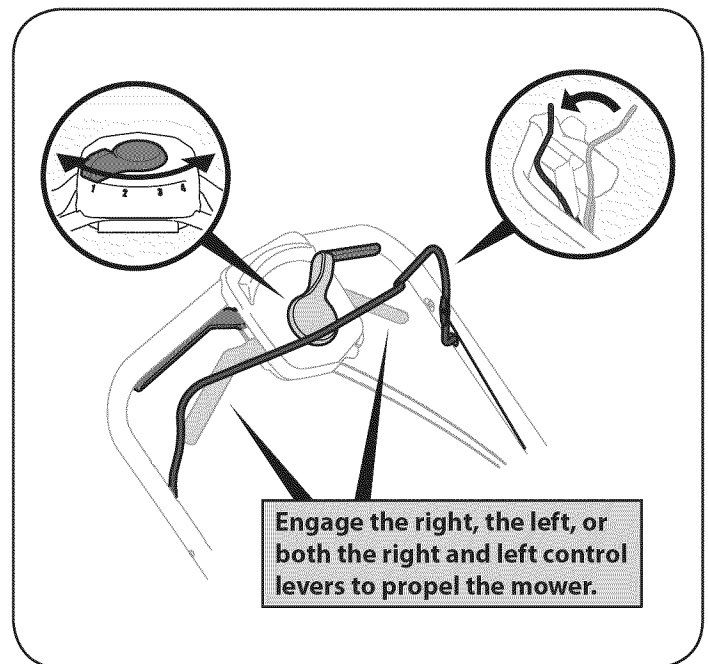

Figure 16
1. Once the engine is running and while continuing to hold the blade control down, squeeze either (or both) drive controls against the upper handle to propel mower. See Figure 16.